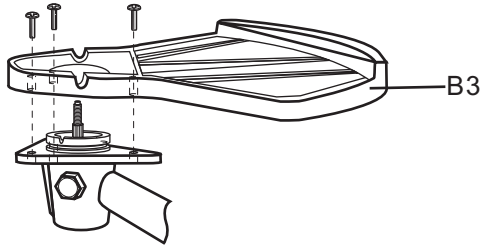

Fig. 3c
5. Place the cutting guard (B3) onto the support and fix it with the screws by using the flat end multi tool (E4). Pay attention to the alignment of the brushcutter guard. (See Fig. 3c)